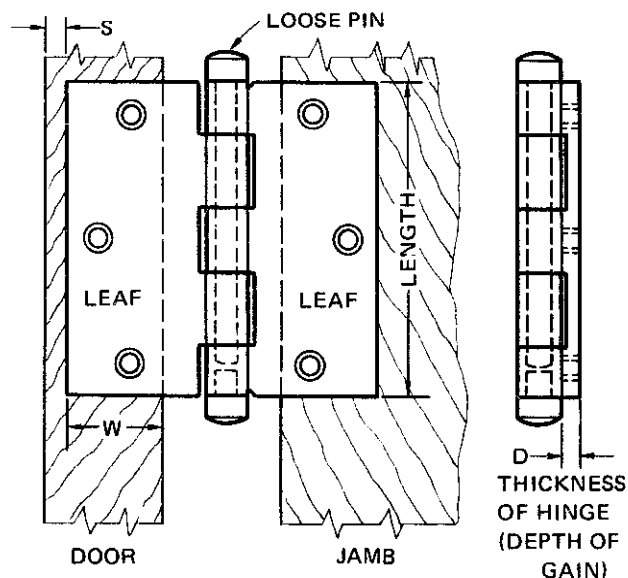

Fig. 4-12 Butt layout
1. To lay out lines for hinge locations on doors or jambs, first refer to figure 4-12. Learn the terms used to identify the butt layout.